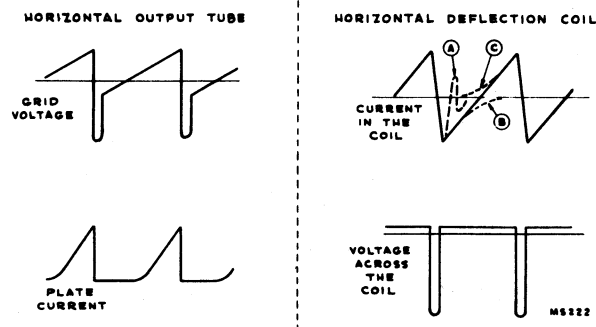

Figure 9—Horizontal Sweep Waveforms
During the latter part of the horizontal trace, the output tube conducts very heavily and builds up a strong magnetic field in the deflection coil and output transformer. When the negative pulse from the horizontal tube is applied to the output tube grid, its plate current is suddenly cut off and the magnetic field in the transformer and deflection coil begins to collapse at a rate determined by the resonant frequency of the system. Actually the system is shock excited into oscillation. Since the output tube is cut off and since the voltage generated by the collapsing field is negative on the reaction scanning tube plate so that it is non-conductive, there is essentially no load on the circuit and it oscillates vigorously for one half cycle. If the reaction scanning tube were not present, the circuit would continue to oscillate as shown in Figure 9 (A). This condition, however, is not permitted. One half cycle of oscillation is permitted because at the end of such a time the cur-
As mentioned previously, if the coil were not damped, it would continue to oscillate at its natural frequency as shown in Figure 9 (A). To prevent such an oscillation the reaction scanning tube is brought into action. This tube is in a modified damper circuit which is effectively connected across the deflecting coil.
If no additional energy were fed into the coil, the field would fall to zero and the Kinescope beam would come to rest in the center of the tube. In such an r-l circuit, as the current approaches its final value, it does not do so linearly but asymptotically as indicated in Figure 9 (B). It is therefore necessary to have the output tube begin to supply power to the deflection coil before the energy in the coil is completely dissipated. Figure 9 (C) shows the shape of the current supplied by the output tube. Although the currents supplied by the output tube and by the decaying field are curved at the cross over point, together they produce a coil current that is linear.